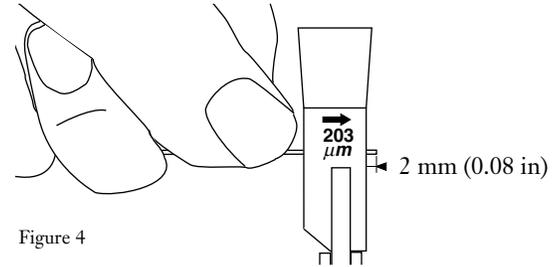

Figure 4
- c) Place the fiber in the V-grooves in the blade housing so that no more than 2 mm (0.08 in.) of coated fiber extends beyond the housing (Figure 4). This positioning will provide a total strip length of 6 mm (0.25 in).